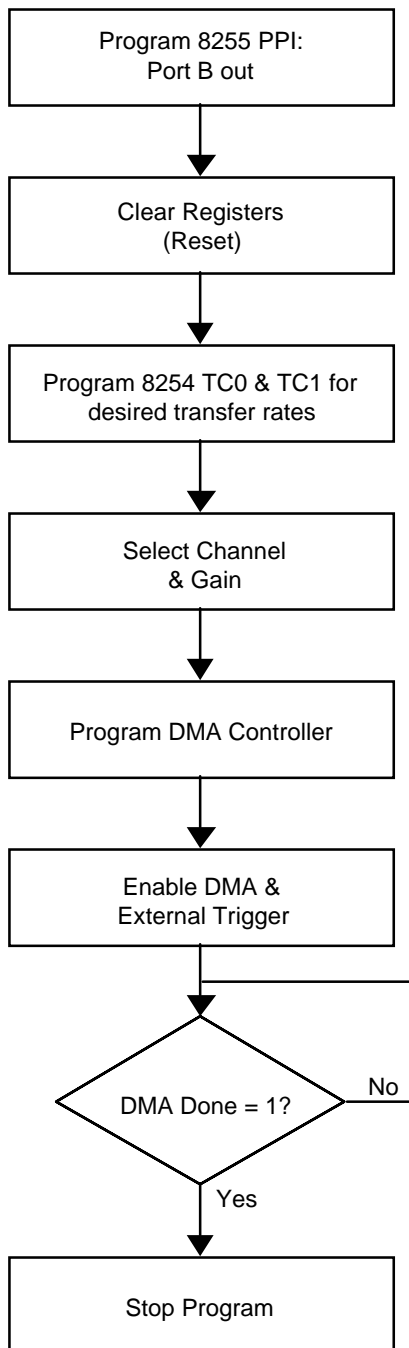

Fig. 4-9 — DMA Flow Diagram
- **DMA Flow Diagram (Figure 4-9)**